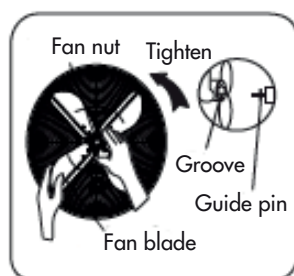

Fig. 2
2. Fit the fan blade on the shaft and firmly tighten the fan nut. TIP: Ensure that the motor shaft's pin is in the fan blade's groove (fig. 2).